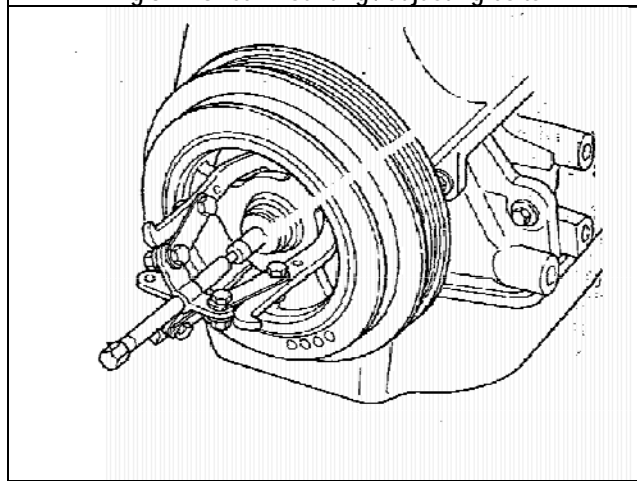

Fig 5 - Removal of crankshaft pulley
- 9) Remove the front crankshaft pulley. *See Figure 5*